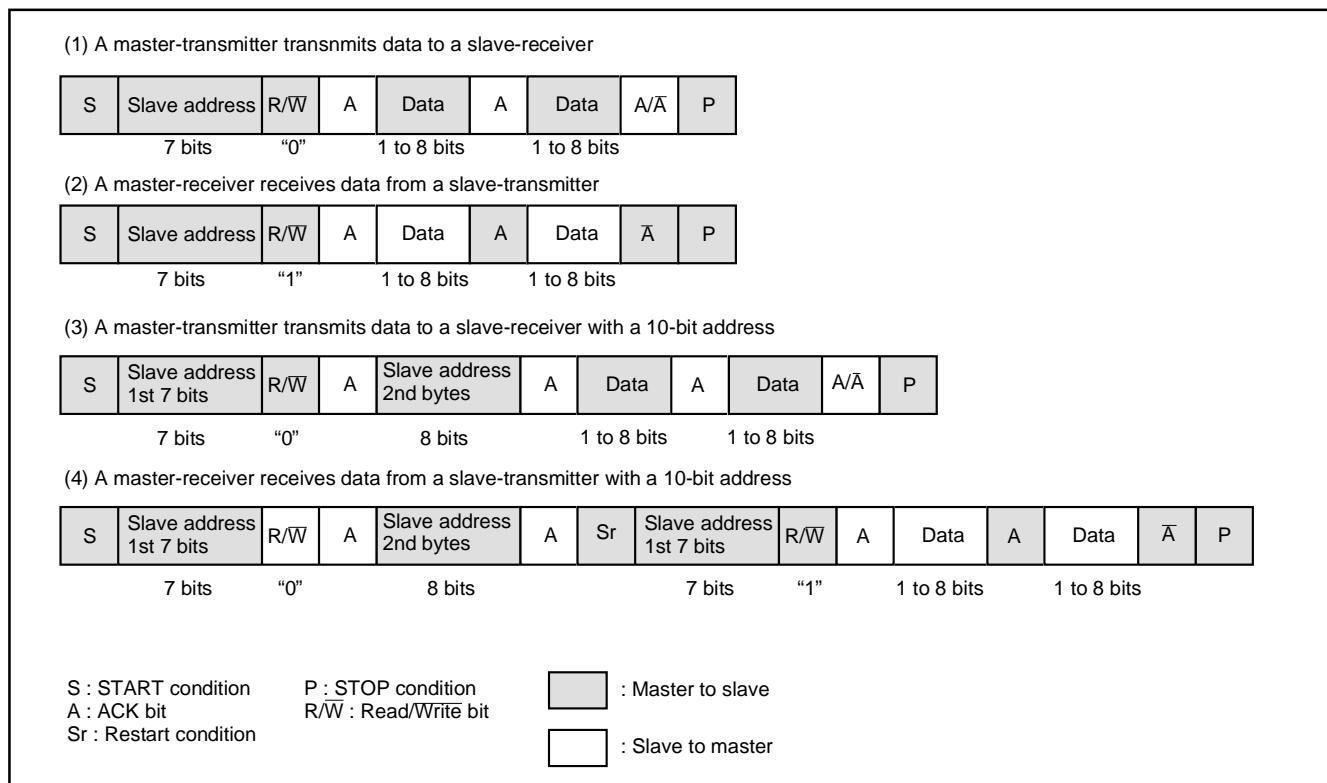

Fig. 39 Address data communication format
(1) 7-bit addressing format
To adapt the 7-bit addressing format, set the 10BIT SAD bit of the I²C control register (address 002E₁₆) to "0". The first 7-bit address data transmitted from the master is compared with the high-order 7-bit slave address stored in the I²C address register (address 002C₁₆). At the time of this comparison, address comparison of the RWB bit of the I²C address register (address 002C₁₆) is not performed. For the data transmission format when the 7-bit addressing format is selected, refer to Figure 39, (1) and (2).
(2) 10-bit addressing format
When the first-byte address data agree with the slave address, the AAS bit of the I²C status register (address 002D₁₆) is set to "1". After the second-byte address data is stored into the I²C data shift register (address 002B₁₆), perform an address comparison between the second-byte data and the slave address by software. When the address data of the 2 bytes agree with the slave address, set the RWB bit of the I²C address register (address 002C₁₆) to "1" by software. This processing can make the 7-bit slave address and R/W data agree, which are received after a RESTART condition is detected, with the value of the I²C address register (address 002C₁₆). For the data transmission format when the 10-bit addressing format is selected, refer to Figure 39, (3) and (4).